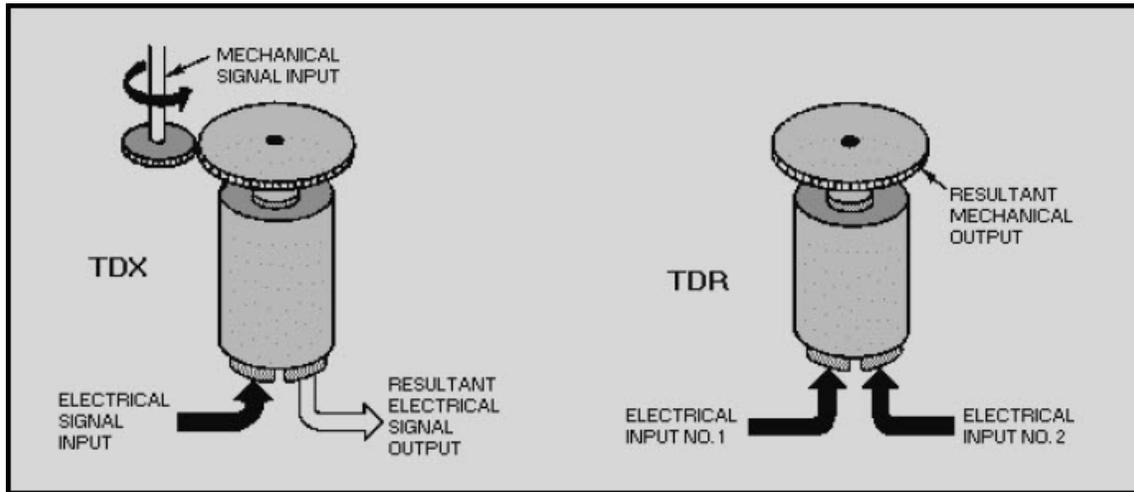

Figure 1-18 Torque differentials
There are two types of differential units - differential transmitters and differential receivers. The differential transmitter (TDX) accepts one electrical input and one mechanical input and produces one electrical output. The differential receiver (TDR) accepts two electrical inputs and produces one mechanical output. A comparison of the TDX and TDR is shown in figure 1-18. The torque differential transmitter and the torque differential receiver can be used to form a DIFFERENTIAL SYNCHRO SYSTEM. The system can consist either of a torque transmitter (TX), a torque differential transmitter (TDX), and a torque receiver (TR), (TX-TDX-TR); or two torque transmitters (TXs) and one torque differential receiver (TDR), (TX-TDR-TX). Before beginning a discussion of the systems using differentials, we need to provide a brief explanation on the newly introduced synchros, the TDX and the TDR.